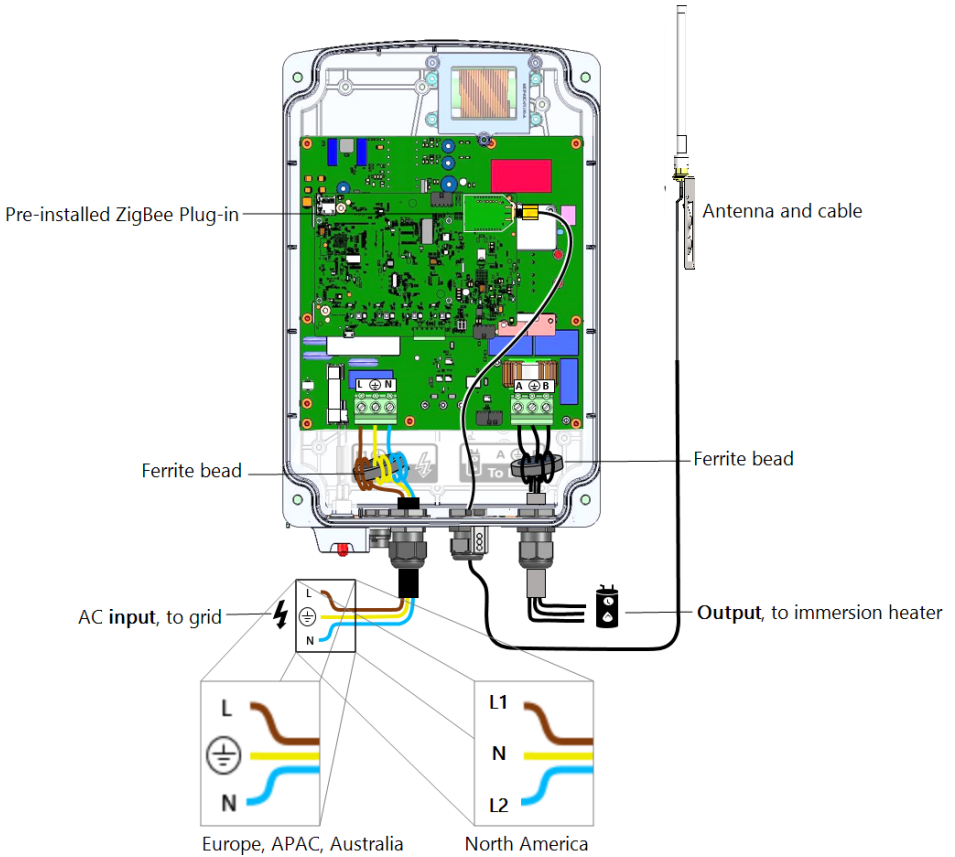

Figure 9: Smart Energy Hot Water wire connections
Do not connect the device *output* (labeled A & B) to the grid, as this will damage the product and void the warranty. Connect the AC grid cable to the designated *input* only (see *Figure 9*).
3. Connect AC (to the grid; see *Figure 9*):
4. Connect to the immersion heater (see *Figure 9*):
- g. Fasten the connector of the antenna cable to the pre-installed ZigBee Plug-in (see *Figure 9*).
8. Turn On the device by turning the ON/OFF/P switch to **1 (ON)** - all LEDs turn on for two seconds, then they flash quickly for two seconds.